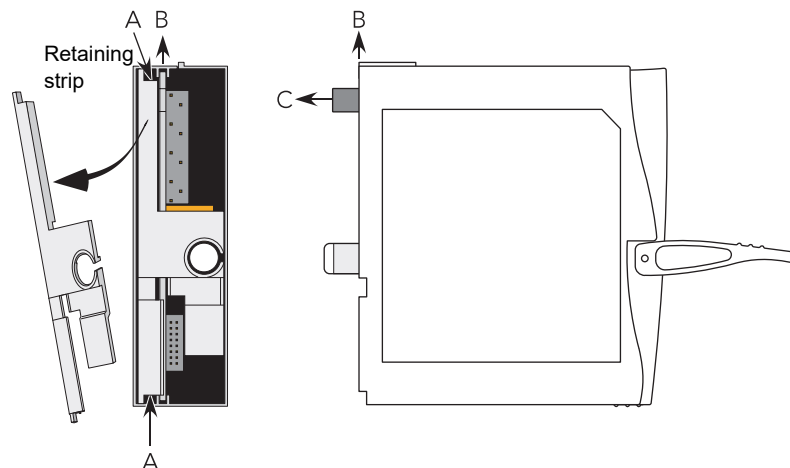

Figure 44 Removal of the relay board from the module
2. With the module locking lever in the unlocked position*, use a small screwdriver, inserted at points 'A' (Figure 44), to lever the card retaining strip gently out of the module case. Attempting this with the lever in the locked position may result in damage being caused to the module case.